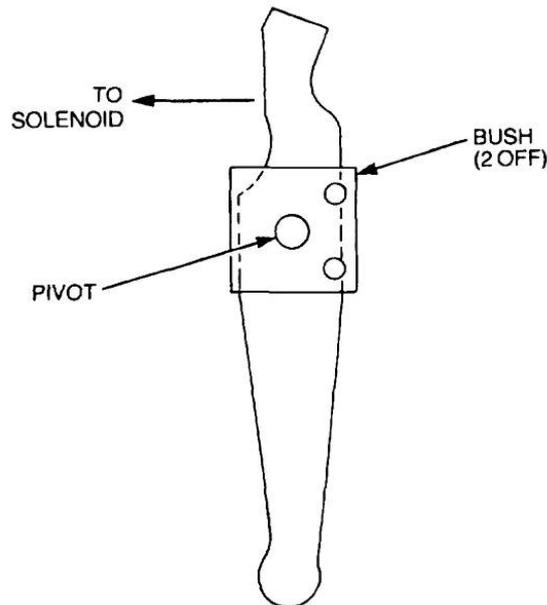

Figure 308 Installation of the Pivot Bush
- Position the clutch lever bush halves on the lever (Figure 308), smear the lever and bush halves with suitable grease and insert them in the pivot bore.